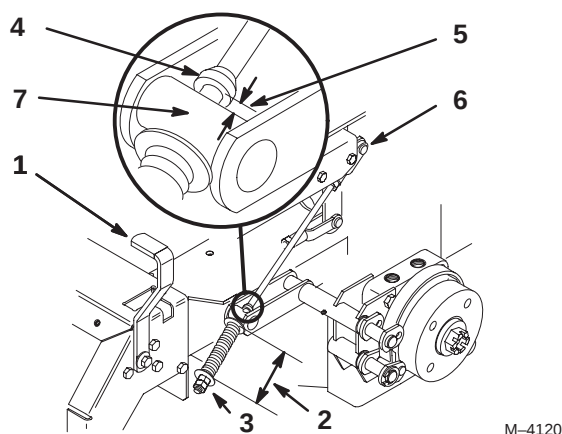

Figure 60
2. Measure the length of the spring. Measurement should be 2.75 inch (70 mm) between washers (Fig. 60).
3. If adjustment is necessary, loosen the jam nut below the spring and tighten the nut directly below the yoke (Fig. 60). Turn the nut until the correct measurement is obtained. Tighten the two nuts together and repeat on opposite side of unit.
6. Measure the distance between the trunnion roller and the collar on brake rod. Measurement should be 3/16–1/4 inch (5–7 mm) (Fig. 60).
7. If adjustment is necessary, loosen the jam nut directly below the yoke. Turn the bottom adjusting nuts until the correct measurement is obtained (Fig. 60). Tighten jam nut at yoke.